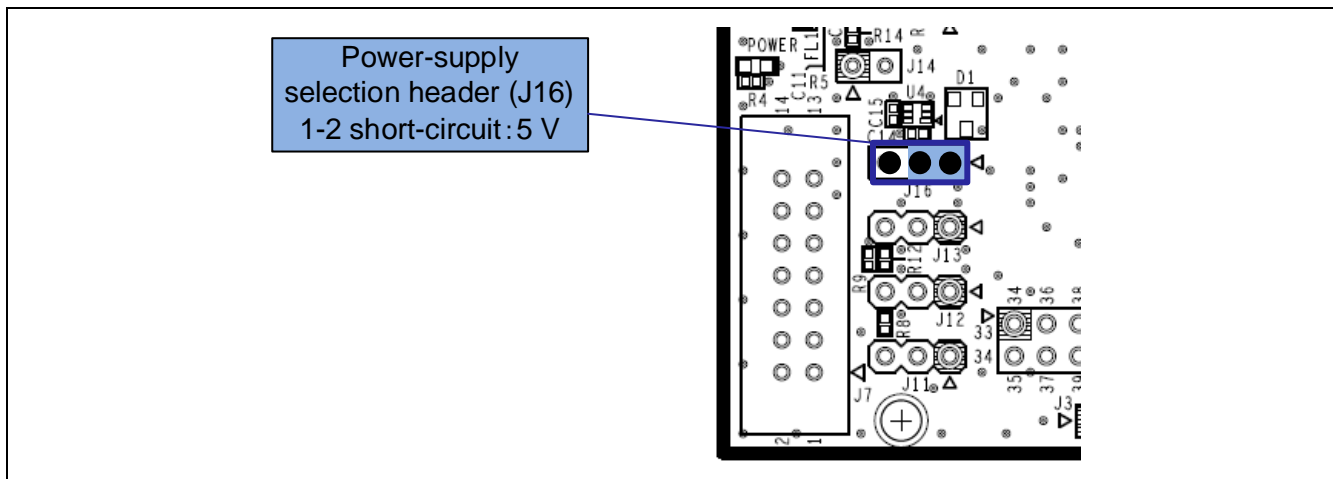

Figure 5-5 Setting of the Header to Select a 5-V Power Supply (Top Side)
- 1-2 of J16 being short-circuit selects a 5-V power supply. This is the default setting as shipped (Figure 5-5).